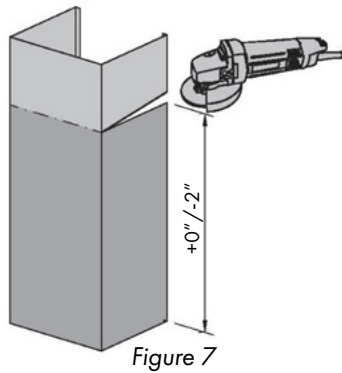

Figure 7
9. Install the grease cup by sliding into brackets located at the bottom of the motor. Install baffle channel and baffle filters. Not all models include baffle channels. *Figure 7*
8. Find the center of the wall where you are installing the hood. Make sure there is sufficient bracing to hold the weight of the hood. Mark your center line and measure out from the center to find your two mounting points. Make sure your mounting points are level when you mark them. It is recommended to install the hood directly into wood supports. *Figure 7*